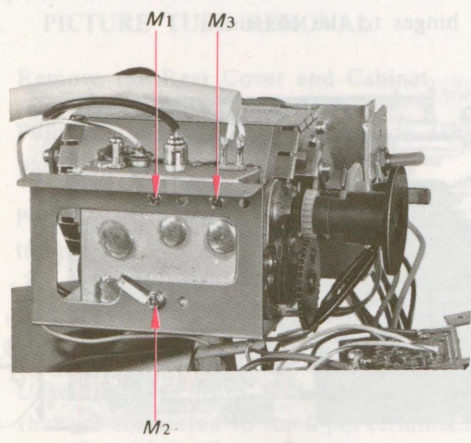

Fig. 2-16. UHF tuner removal
4. Remove the three screws labeled M1-3 in Fig. 2-16.